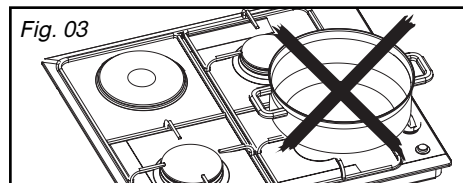

Fig. 03
– Do not use cookware that partially covers the knobs (Fig. 03).